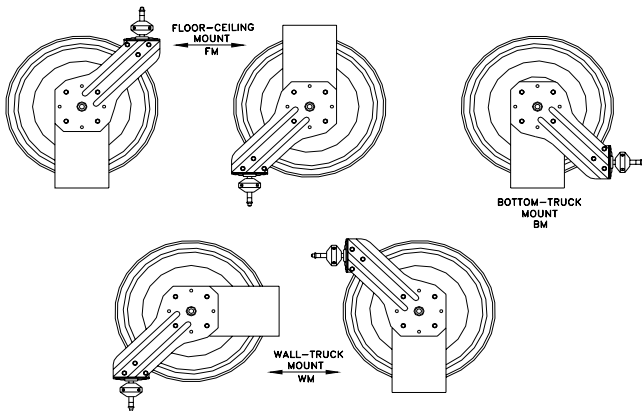
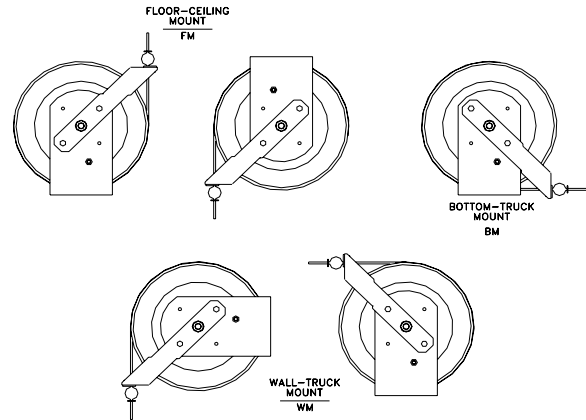

Fig. 1.0
Fig. 2.0
- Guide arm may be adjusted to desired location as shown in figure 1.0. Refer to figure 2.0 for Series SD models.